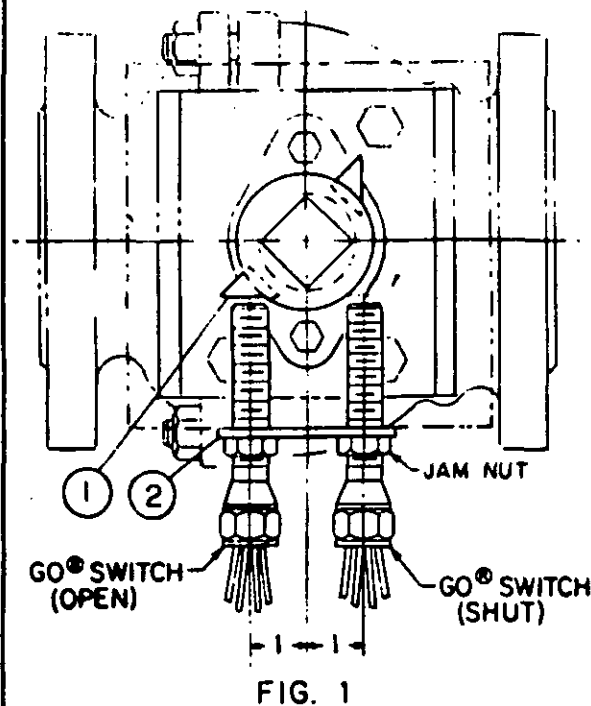

FIG. 1
1. With Valve Actuator removed slide Switch Activator (item 1) onto drive shaft as shown in figure 1.
2. To Mount Mounting Bracket (item 2) match drill and tap for three #10-24 UNC screws. Attach Mounting Plate to Actuator mounting bracket with items 4 & 5.
3. Screw GO Switches into threaded holes on Mounting Bracket (item 2) and secure with jam nuts included with Switches.